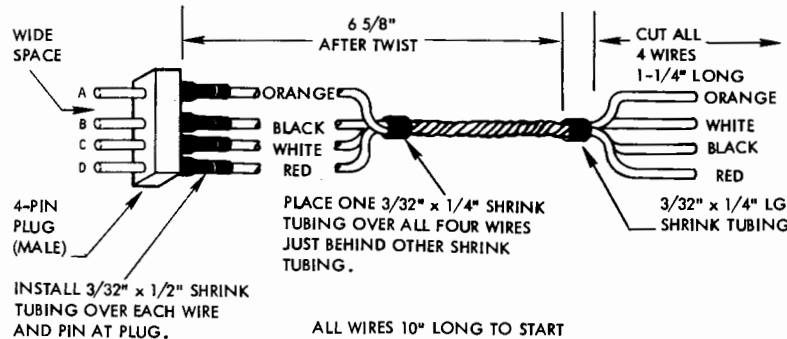

Figure 6. Standard Servo Cable Assembly
- 45. Insert .301" solder into cavity of pin "A" of plug (see figure 6). Apply tip of soldering iron to upper side of pin until solder melts and fills cavity. No overflow, please.
- 50. Slide 3/32" x 1/4" shrink tubing over wire ends. Position close to plug as shown in figure 6. Apply heat to shrink in place.
- 52. Untwist ends of wires beyond shrink tubing. Cut each wire to length shown (figures 6 and 7). Strip 1/8" from end of each wire, and tin the ends.